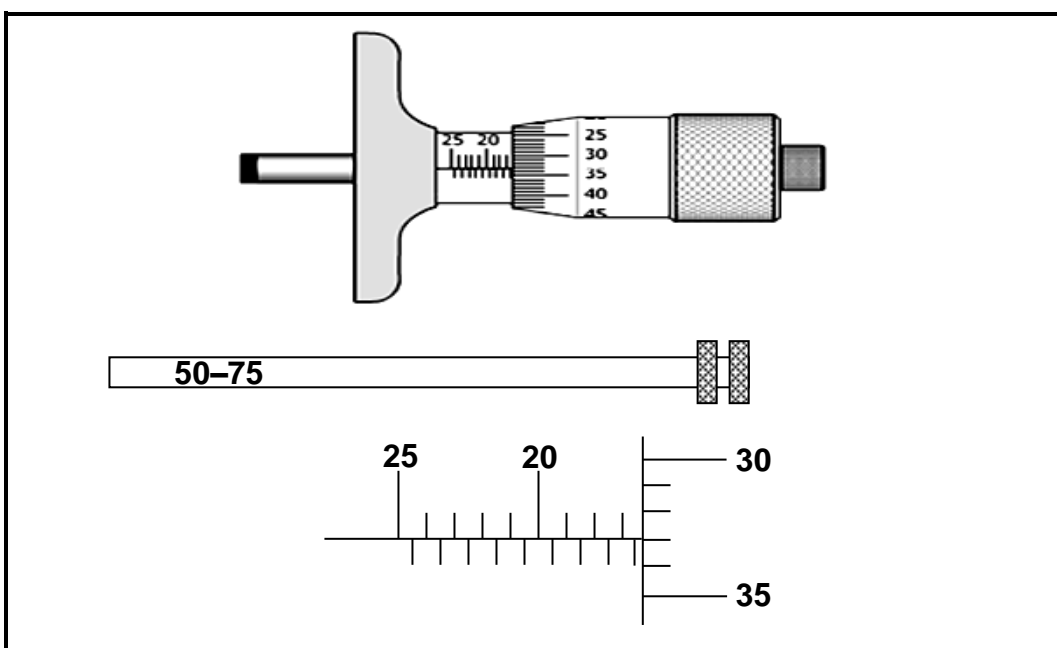

FIGURE 7.3
7.3 What is the reading on the depth micrometer shown in FIGURE 7.3 below?